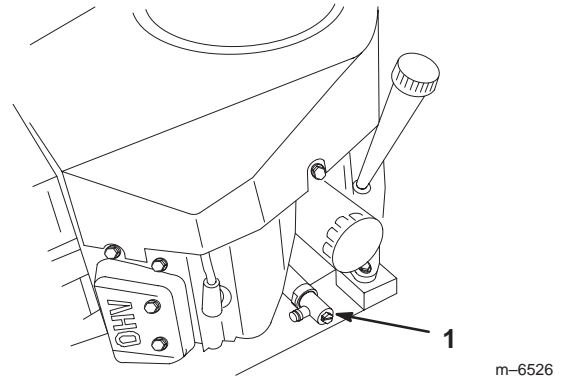

Figure 17
4. Place a pan below the oil drain hose. Use either a flat screw driver, 3/8 inch (10 mm) wrench to open valve (Fig. 17).
5. Rotate valve end counterclockwise to open valve (Fig. 17).
6. When oil has drained completely, rotate valve end clockwise to close the valve (Fig. 17).
7. Remove the drain hose (Fig. 17).